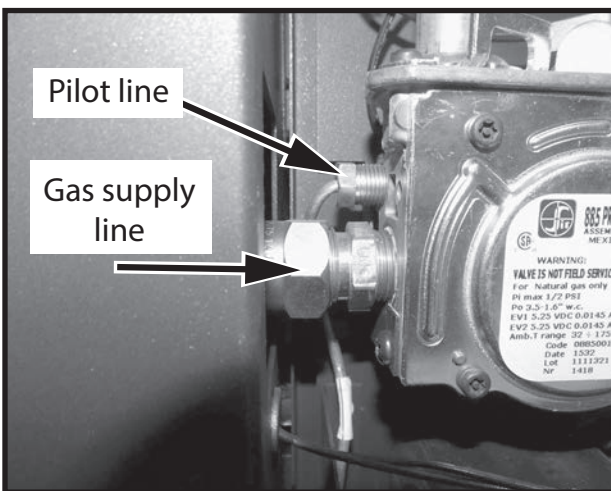

Figure 62: Gas line connections at gas valve.
13. Disconnect the gas supply line to the gas valve (Figure 62). It is not necessary to disconnect the pilot gas line at this time since it will come out with the control panel once it's removed and can be removed at that time.